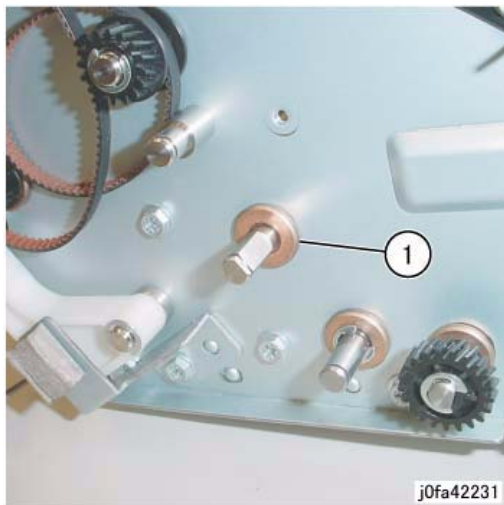

Figure 3 Removing the Bearing (j0fa42294)
5. Remove the Bearing. (Figure 3)